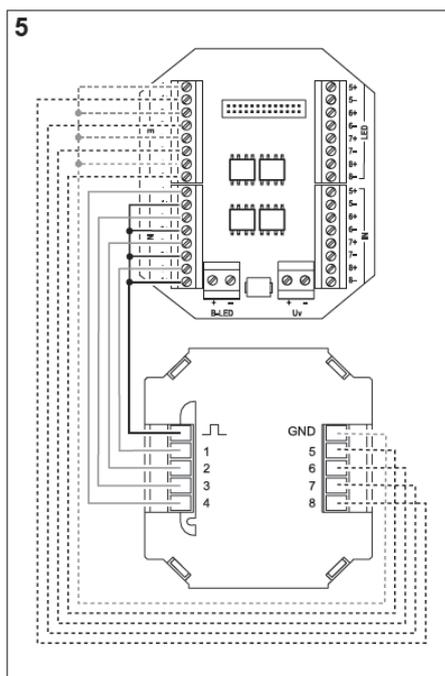

Figure 5
- Wire inputs **1** to **4** respectively to terminals **1–** to **4–** of the **IN** terminal block on the adapter (Figure 5) and tighten screw terminals.